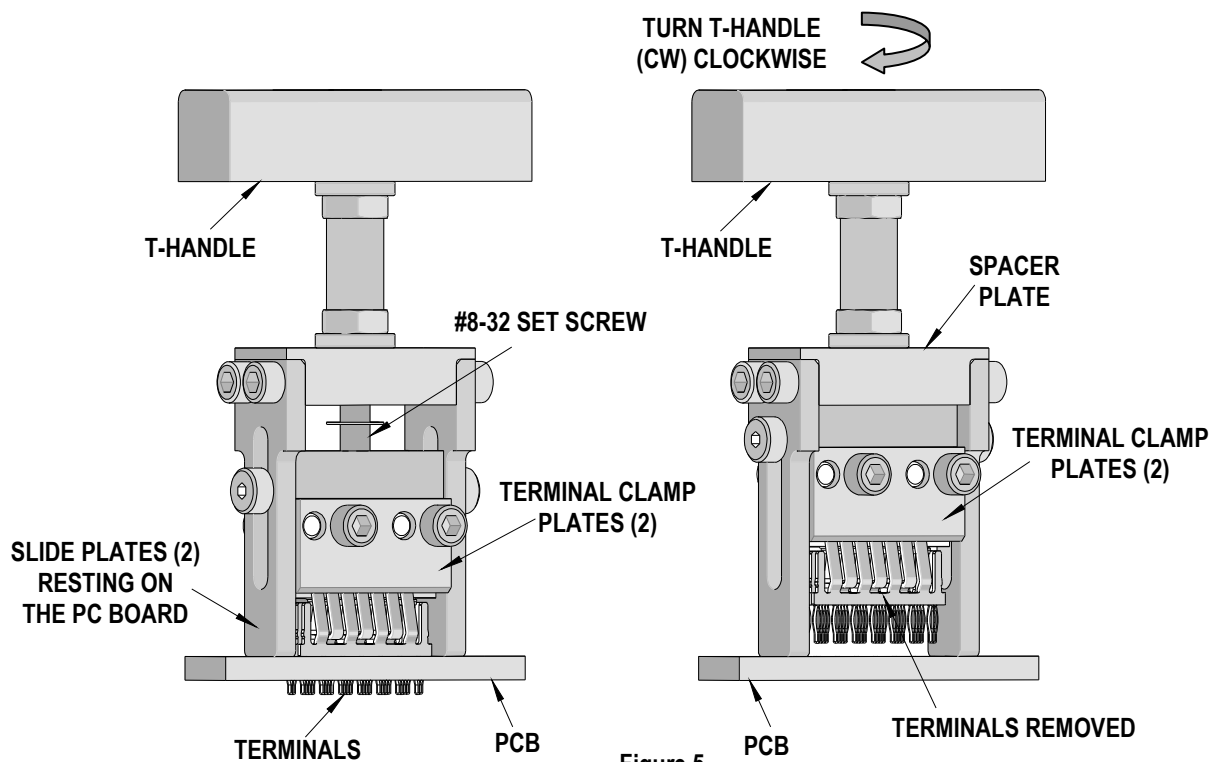

Figure 5
5. Position the Terminal Removal Tool so that the (2) Side Plate Guides are resting on the printed circuit board.
6. Turn T-handle (CW) clockwise until the #8-32 Set Screw engages into the threaded hole of the Anvil Block.
7. Continue turning the T-Handle until the terminals lift up and are removed from the printed circuit board. See Figure 5.
8. Move the Removal Tool away from the printed circuit board. Then remove the terminals from the Removal Tool by loosening the (4) #6-32 SHCS on the Terminal Clamp Plates and pulling out the terminals.